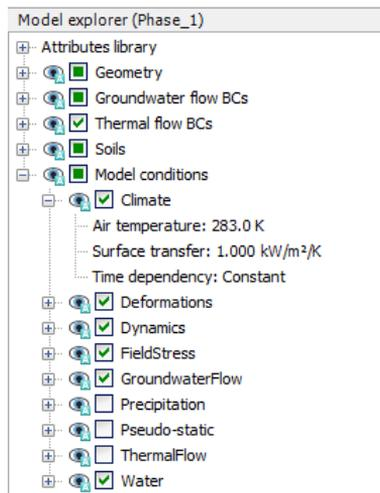

Figure 15.10 Model conditions for Phase_1
- Set the *Air temperature* to 283.0 K and the *Surface transfer* to 1.0 kW/m²/K (Figure 15.10). This will define the thermal conditions at the ground surface and the inside of the lock.